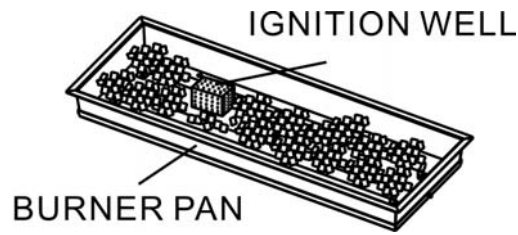

Figure 10
10. Pour ALL of the provided media glass beads into the burner pan. Burner MUST be completely covered to ensure the appliance functions properly and safely. Remove any glass beads on top of the ignition well. See Figure 10.